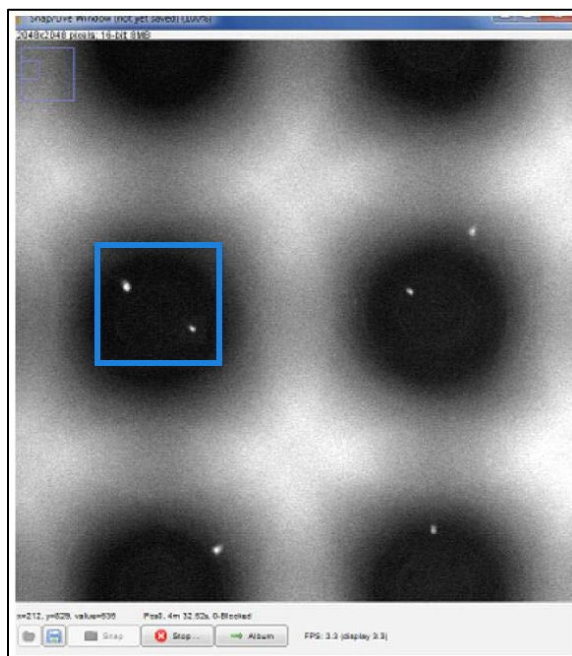

Figure 18. Adjusting the focus on cells.
- d. Adjust the fine contrast knob back and forth to find the optimal focal point for a cell (smallest, sharpest view) or the optimal focal point between two cells on the Z-plane (blue box in Figure 18, below).